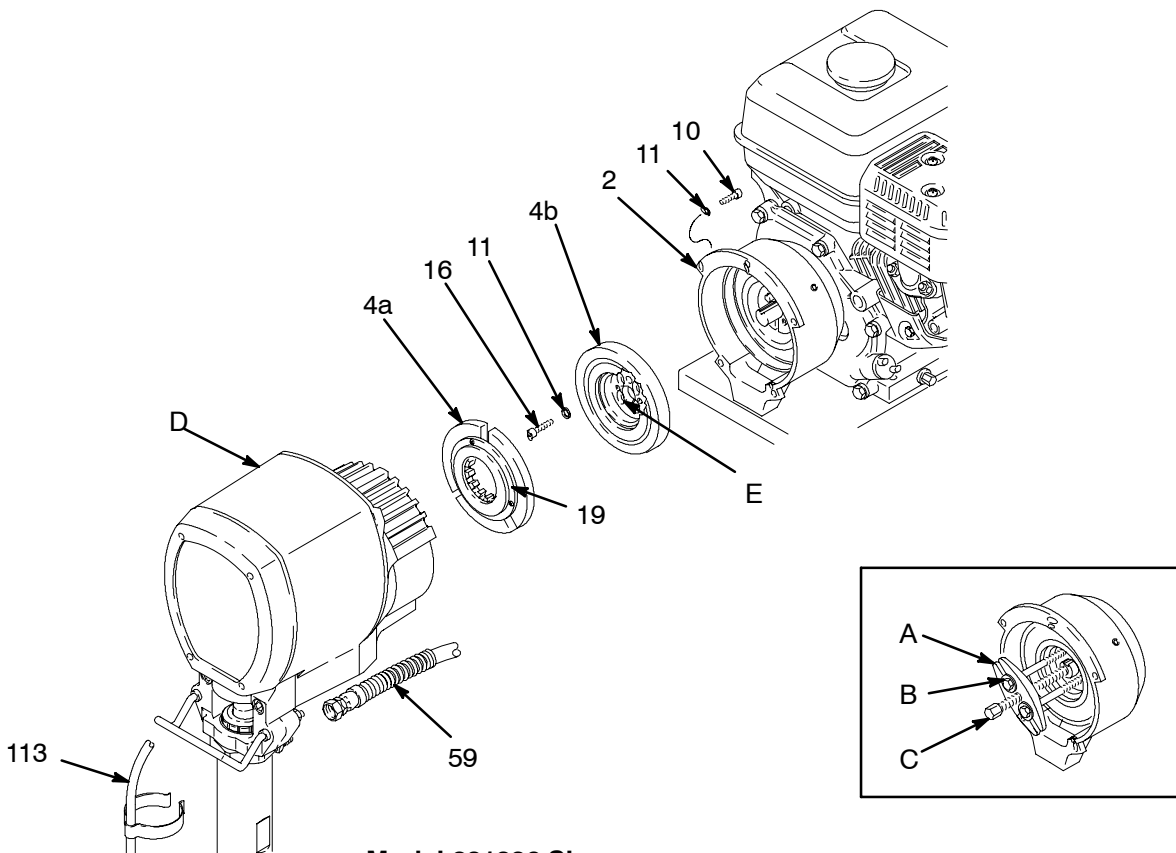

Fig. 12
**NOTE:** The clutch assembly (4) includes the armature (4a) and rotor (4b). The armature and rotor must be replaced together so they wear evenly.
**NOTE:** If the pinion assembly (19) is not yet separated from the clutch housing (2), follow Steps 1 to 4. Otherwise, start at Step 5.
**NOTE:** Refer to Fig. 12 for this procedure.
2. Disconnect the hose (59) from the displacement pump. Remove the spring clips and drain hose (113) from the displacement pump.
3. Remove the two bottom screws (10) and lockwashers (11) first, then remove the two side screws (10) and lockwashers (11), and last remove the top screw (10) and lockwasher (11).
4. Tap lightly on the back of the bearing housing (21) with a plastic mallet to loosen the assembly (D) from the clutch housing. Pull the assembly away.
- a. Remove the four socket head capscrews (16) and lockwashers (11). Install two of the screws in the threaded holes (E) in the rotor. Alternately tighten the screws until the rotor comes off. See Fig. 12. If the rotor is difficult to remove, use procedure b.
- b. You can use a standard steering wheel puller (A). However, two 1/4-22- x 3 or 4 in. long screws (B) are also needed. Replace the short screws of the steering wheel puller with the longer screws (B). Turn the screws (B) into the threaded holes (E) of the rotor (4b). Tighten the capscrew (C) of the tool until the rotor comes off. See the Detail in Fig. 12.